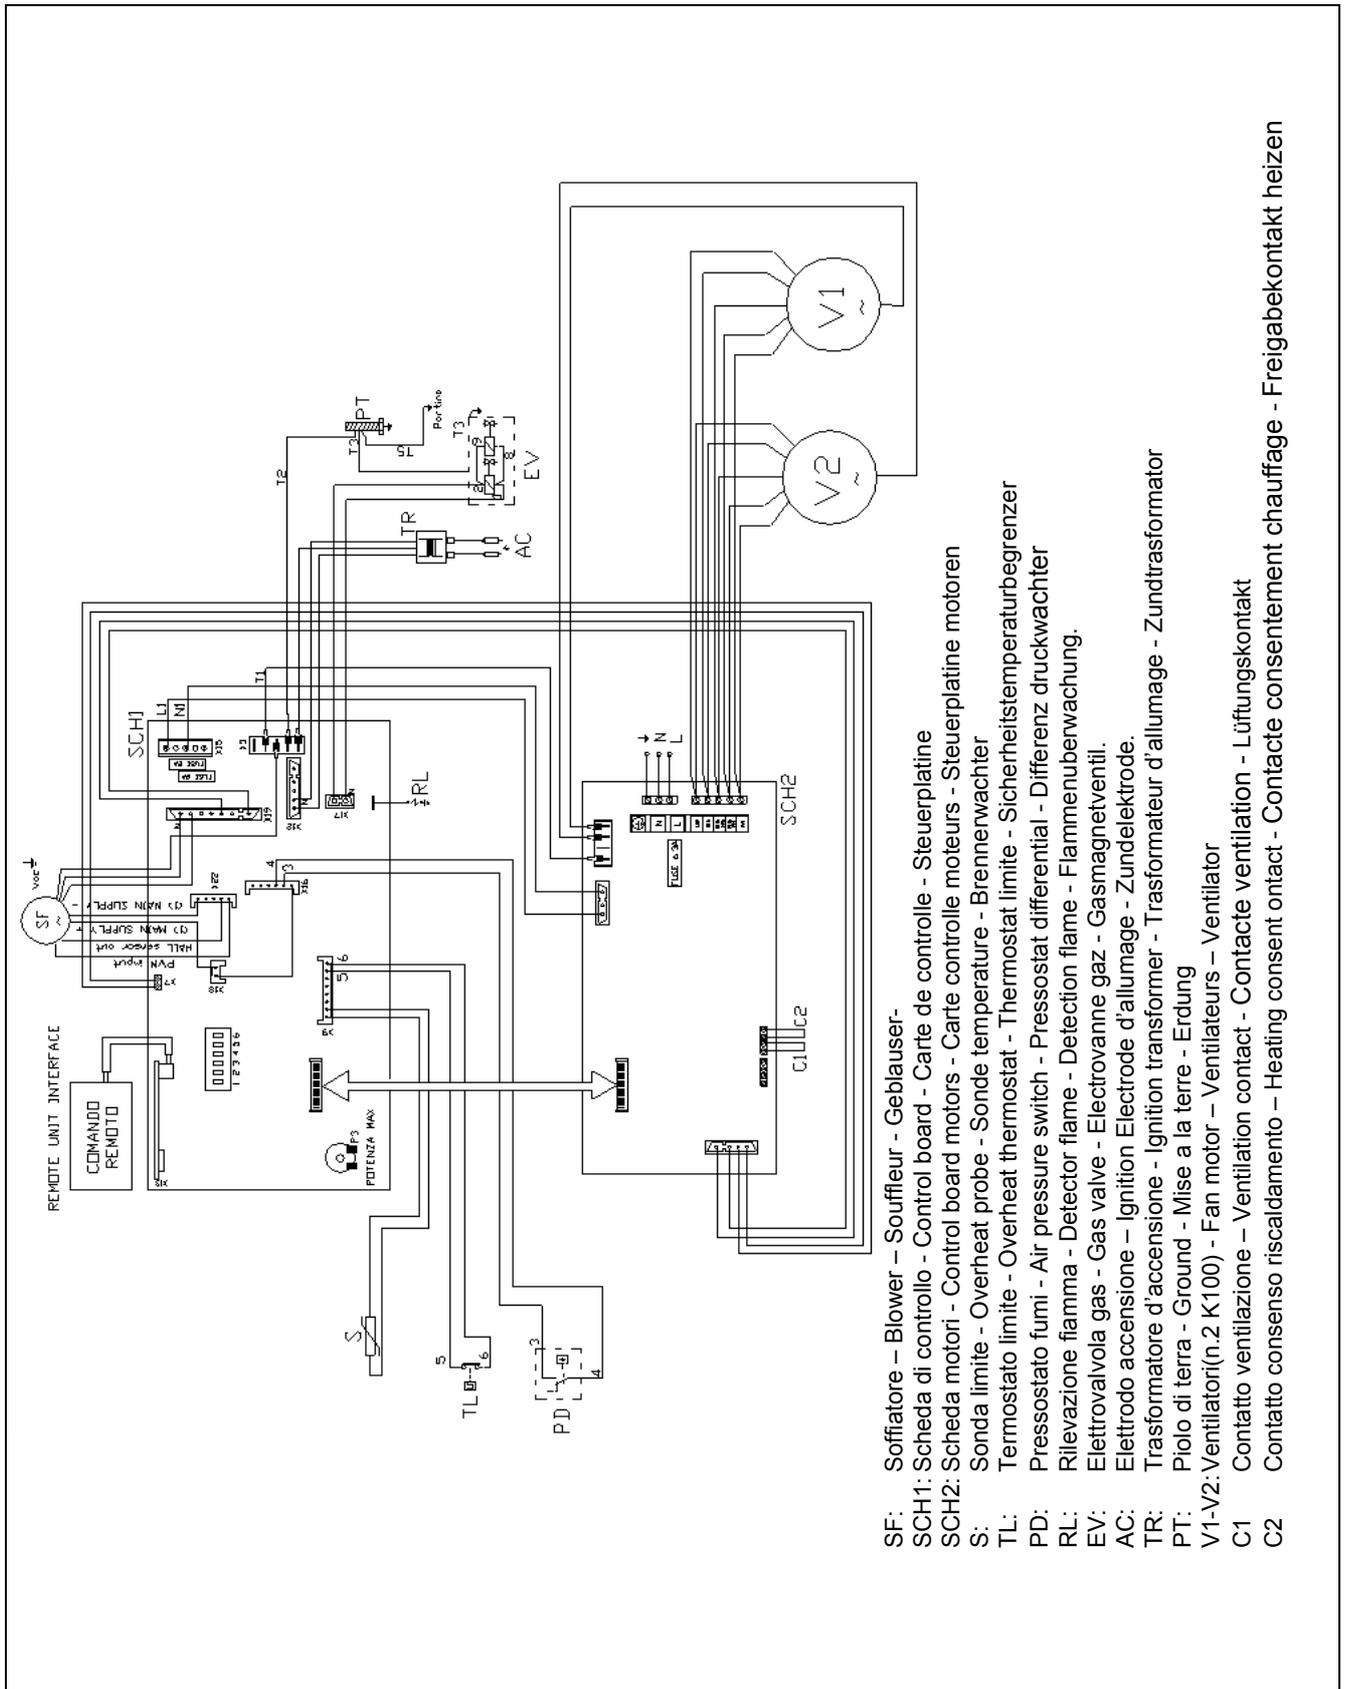

Figure 32 – Installation wiring diagram of K series heaters
2. Carry out the electrical connections according to the installation wiring diagram (see Figure 32 on page 56); wire type is H05 VVF 3x1 mm² with a maximum external diameter of 8.4 mm.